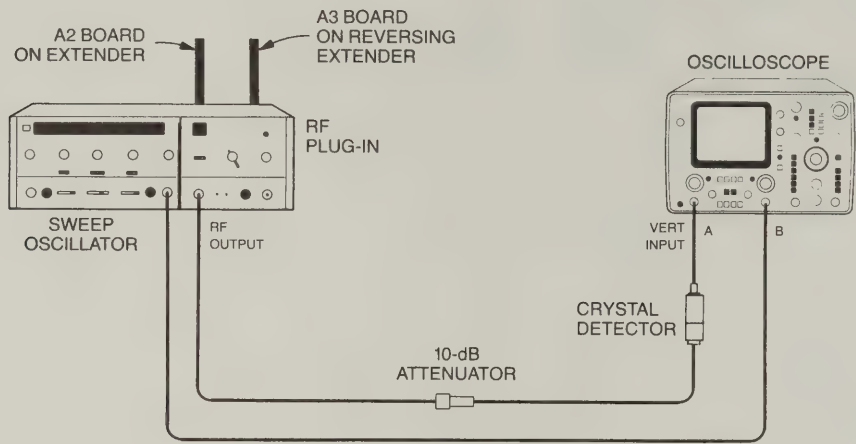

Figure 5-20. Delay Compensation Adjustments Setup
- a. Press 8620C LINE switch OFF. Connect equipment as shown in Figure 5-20. Remove A2 and A3 assemblies from 86290B. Install A2 assembly on an extender board. Install A3 on a reversing extender board.